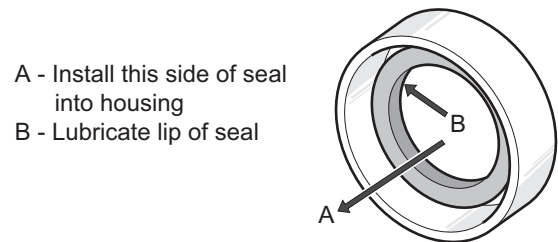

Figure 9 Seal Installation
- Apply a light coat of grease to the inner race. Place the inner wheel bearing (7) into the hub. Orient the new grease seal (8) so the flange side of the seal is facing into the bore. Tap gently into place until the seal is flush with the end of the hub. Lubricate the lips of the seal and spindle with grease (Figure 9).
- Install the outer wheel bearing (4) and secure the hub loosely with the castellated nut. Place the wheel onto the hub and hand tighten the lug nuts.